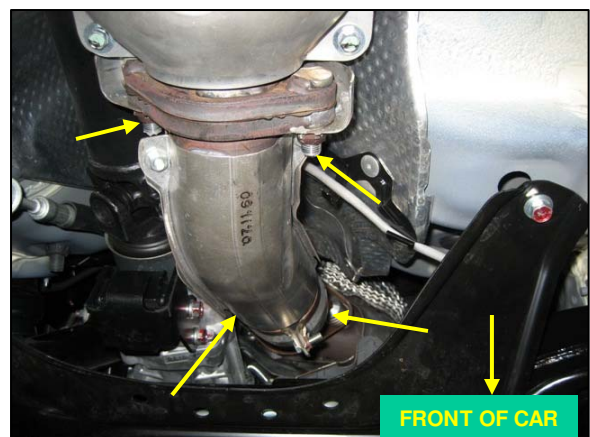

Fig. 15
17. From underneath the vehicle, remove the front exhaust pipe (before catalytic converter). Remove the 2 bolts with springs into downpipe with 14mm socket on 12" (305mm) extension. Rear nuts are 19mm. If you do not desire to remove the oxygen sensor from the pipe, secure the pipe under the car with zip-ties or wire, so that the oxygen sensor wire is not supporting the weight of the pipe (2 bolts, 2 nuts, 14mm & 19mm sockets, extension). Fastener locations shown by arrows in *Fig. 15*.